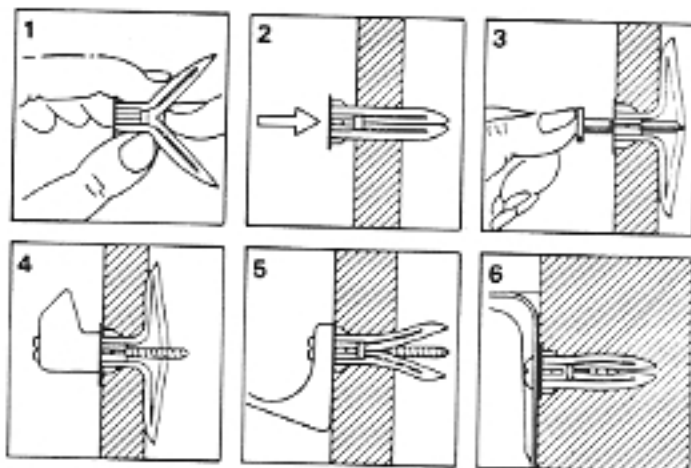

Figure 2-13. Screw Anchor Installation
2. Install screw anchors as described in Figure 2-13; leave about ¼ inch of each screw exposed.
2. Install screw anchors as described in Figure 2-13.